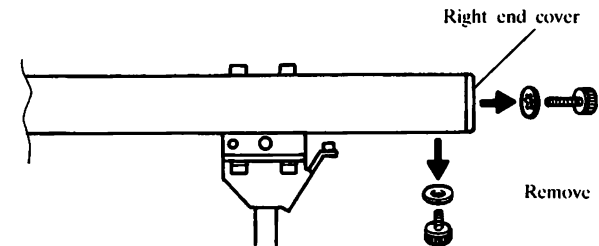

Fig. 73
- (1) Remove the bolt (5×8) and washer which is on the bottom side of the rail at the right end. (Refer to Fig. 73)
- (2) Remove the bolt (5×25), Washer and the Right end cover for the rail. (Refer to Fig. 73)